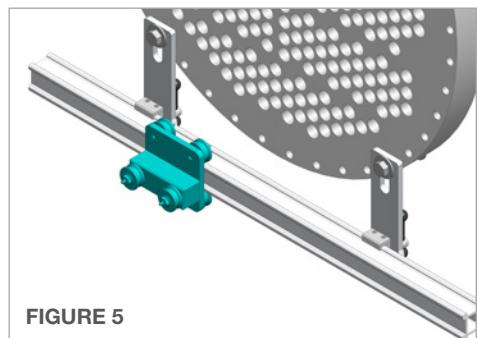

FIGURE 5
5. Slide the **Idler Carriage** onto the Lower Non-Slotted Rail. (**Figure 5**)